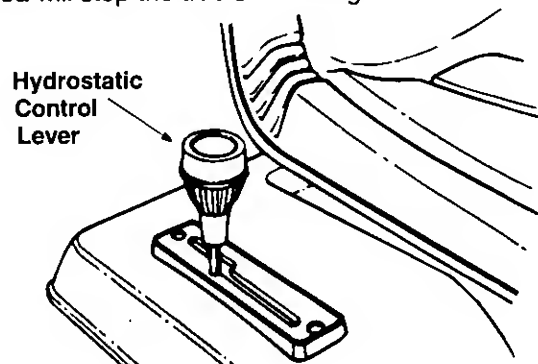

Figure 11
The hydrostatic control lever is located on top of the fender on the right side of the tractor. This single control lever, connected to the hydrostatic transmission, controls both the speed and direction of the tractor. Infinite speed control is achieved by moving the control lever forward or backward. The farther forward or backward you move the control lever, the faster you will travel. Pulling the control lever into neutral (N) area will stop the tractor. See Figure 11.